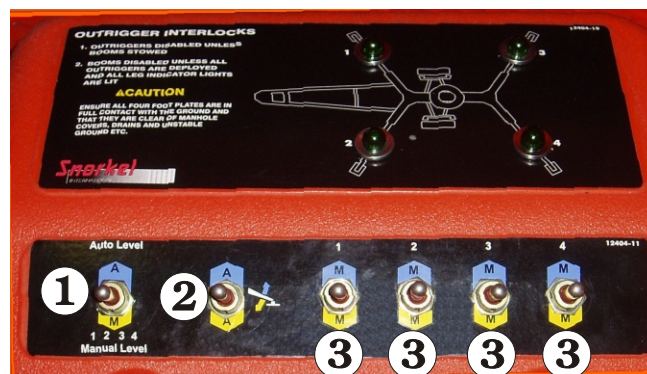

Figure 8.4 - Auto Level Controls
1. Set switch ❶ to automatic mode (see Figure 8.4)
- Press switch ② and hold to lower the stabilizers (see Figure 8.4).
- Set switch ① to manual mode (see Figure 8.4).
- Operate each switch ③ (see Figure 8.4) to raise or lower each stabilizer one at a time. Use the level bubble (see Figure 2.7 in Safety Devices Chapter) to check the machine is level.